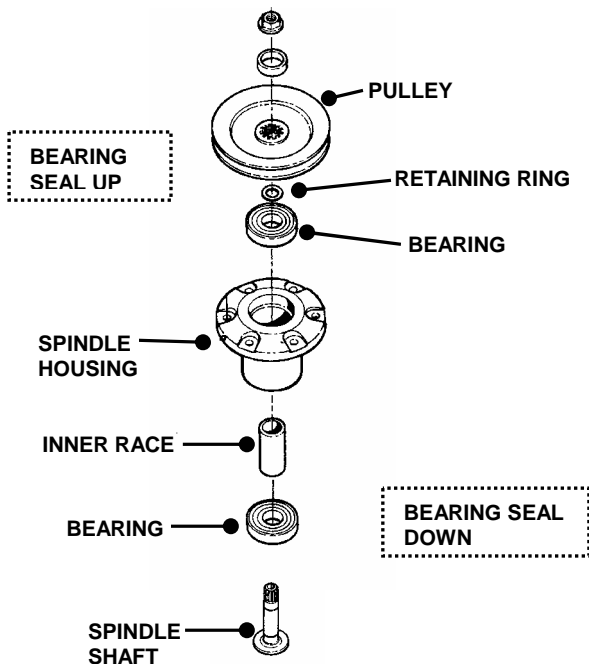

FIGURE 4.12
4. Top and bottom bearings are now removable. Pull out on inner race to slide bearing from housing. See Figure 4.12.